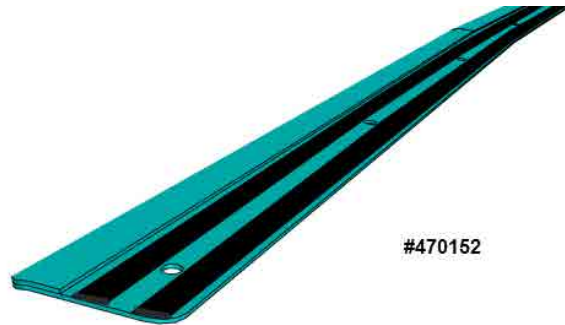

FIGURE 46
7. Apply two strips of double face self-adhesive tape along drip edge #470252 from one end up to the other end. The strips should be placed on each side of the drilled holes (FIGURE 46).